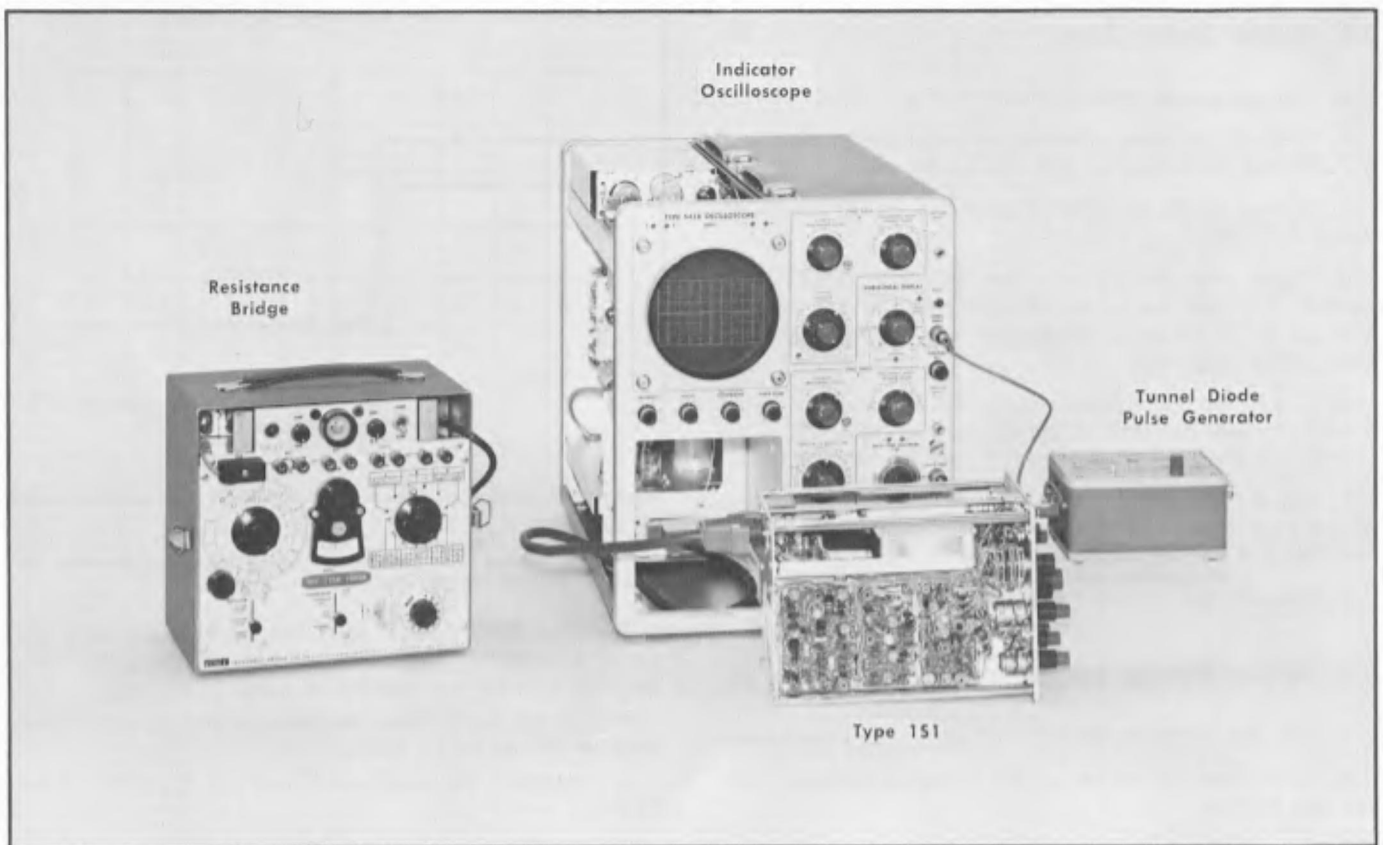

Fig. 5-22. Initial test equipment setup for steps 11 through 13.
- a. Test equipment setup is shown in Fig. 5-22.